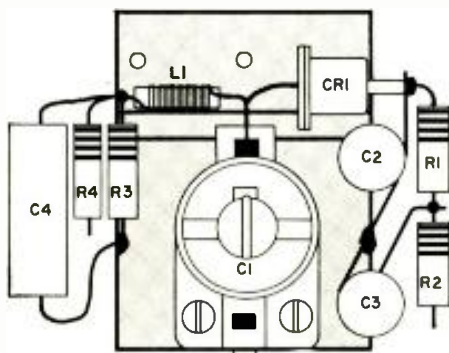

Fig. 4. How components are laid out and wired to fit on compact sub-chassis.
6. Mount *C*, on the metal plate, using the two screws and two nuts in the parts list, through holes *A* and *B*. For position, refer to Fig. 4. Tighten the screws, but not enough to crack the ceramic body of *C*. A drop of cement on each nut will insure good lock.
7. Take *L*, the 1-μhy. r.f. choke, and cut the leads so that each is 1/8 inch long. Solder one end to the upper terminal of *C*, as shown in Fig. 4. This is also terminal *Y* of Fig. 3.
plate identified as *E* in Fig. 3B. This spot should be tinned first, as should point *F*, on the other side of the plate. For position, refer to Fig. 4, as you should be doing for the following steps.
16. Take a length of black hook-up wire and solder one end to the junction of  $R_1$ ,  $R_2$ , and  $C_3$ . This lead may be omitted if defeat switch *S*, will not be used. The unit is now complete. (To support the three leads, the author added an extra touch. A small loop of stiff wire was twisted around the red lead, and the loop was soldered to point *E*. Another loop was twisted around the insulated green and black leads. This loop was soldered to point *F*.) Check the finished sub-chassis against Fig. 4.  $C_1$ , on one side, and  $R_1$  and  $R_2$ , on the other side, may be dressed closer to the metal plate than shown in Fig. 4, where these components have been spread out for clarity.